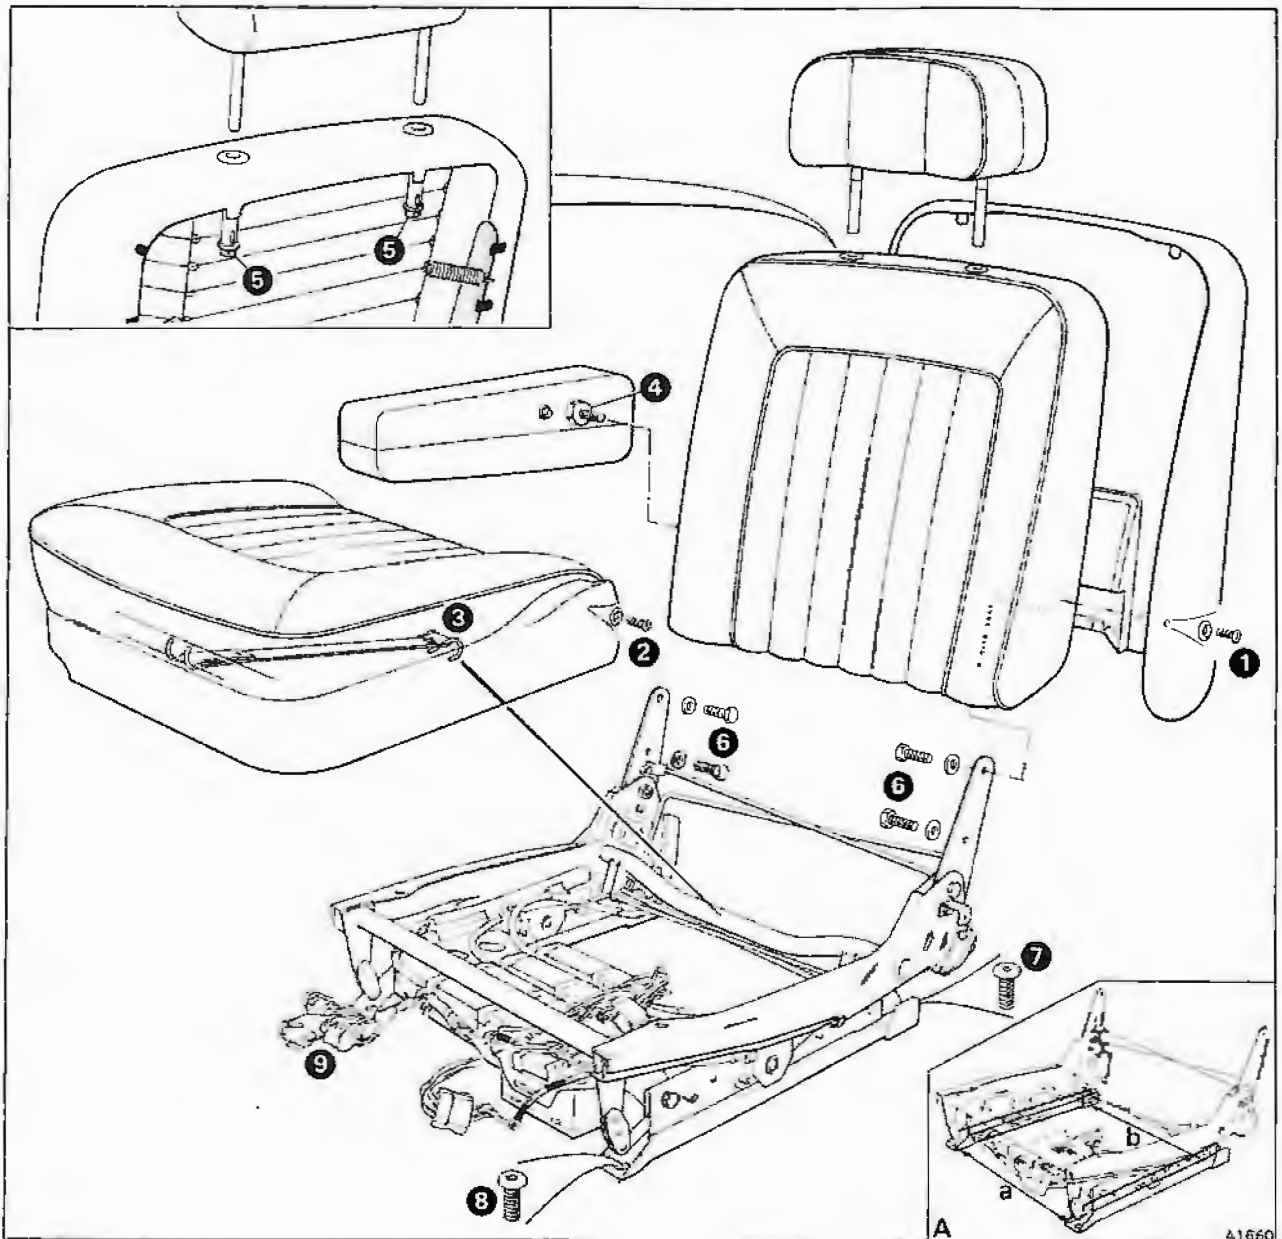

Fig. S13-1 Front seat trim and mounting arrangement
Front seat cushion and valance assembly – To remove and fit (see fig. S13-1)
Front seat arm rest – To remove and fit (see fig. S13-1)
Front seat head restraint – To remove and fit (see fig. S13-1)
Front seat squab – To remove and fit (see fig. S13-1)
Front seat complete assembly – To remove (see fig. S13-1)
Front seat complete assembly – To fit (see fig. S13-1)
2. Prior to tightening the seat base securing socket screws, ensure that the distance between the left-hand and right-hand seat slide is correct (see fig. S13-1, inset A).
3. Torque tighten the socket screws (items 7 and 8) to between 48 Nm and 54 Nm (4,9 kgf m and 5,5 kgf m; 36 lbf ft and 40 lbf ft). The socket screws should be tightened in the following sequence. Rear inboard, rear outboard, front inboard, and front outboard.